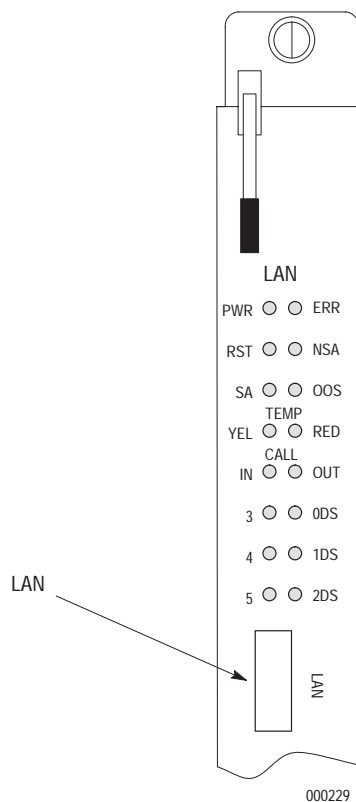

Figure 4-6. LAN Connector on the LAN Card.
1. Refer to Figure 4-6, and plug the Attachment Unit Interface (AUI) cable, P/N 057-1557-002, provided by Octel into the LAN connector on the LAN card, located in slot 8 or 16, and screw on the cable connector.